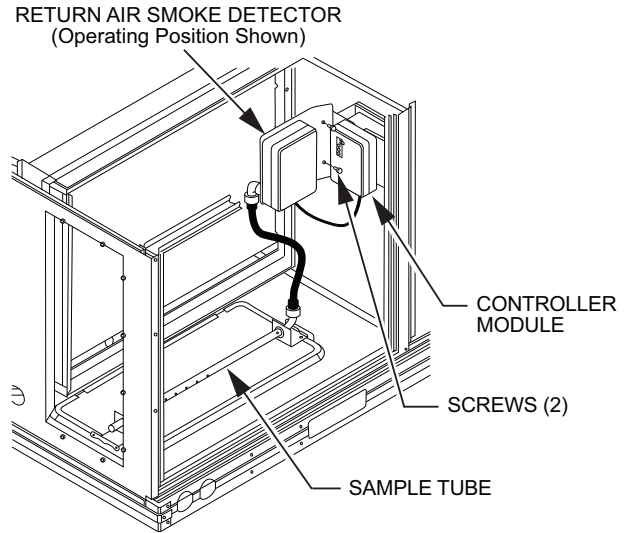

Fig. 36 — Return Air Smoke Detector Operating Position
3. Rotate the detector plate so the sensor is facing outwards and the sampling tube connection is on the bottom. See Fig. 36.